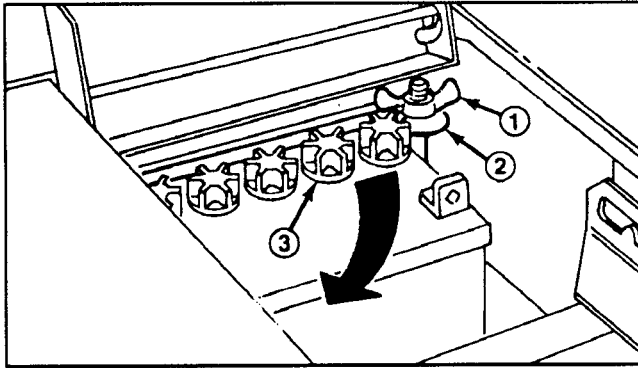

Figure 8
2. Remove the wing nut securing the battery hold downs to the rider chassis. (Fig. 8).